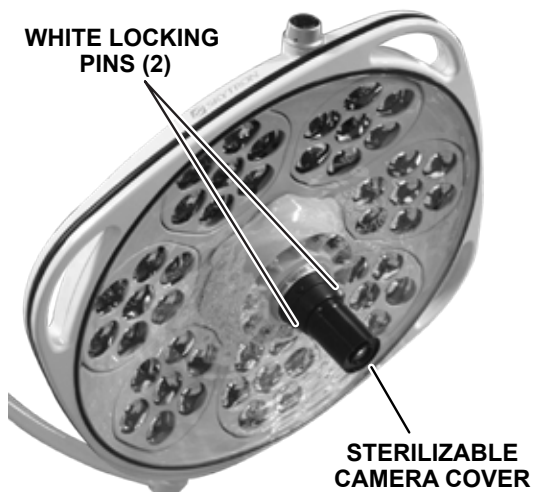

Figure 1. Sterilizable Camera Cover Removal
1. If the sterilizable camera cover is installed, push in the two (2) white pins in the cover and remove the cover (Figure 1).